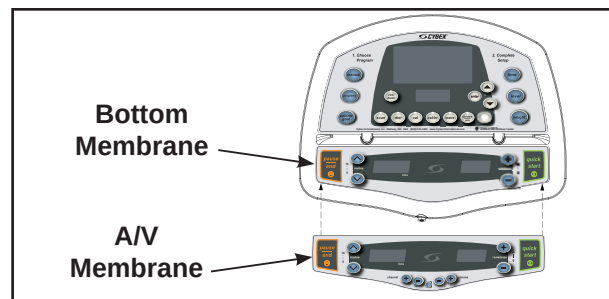

Figure 15
- C. Using a utility knife, pry off bottom membrane from the front console cover. See Figure 15.
- D. Peel off backing from new A/V membrane and place on the front console cover. See Figure 15.